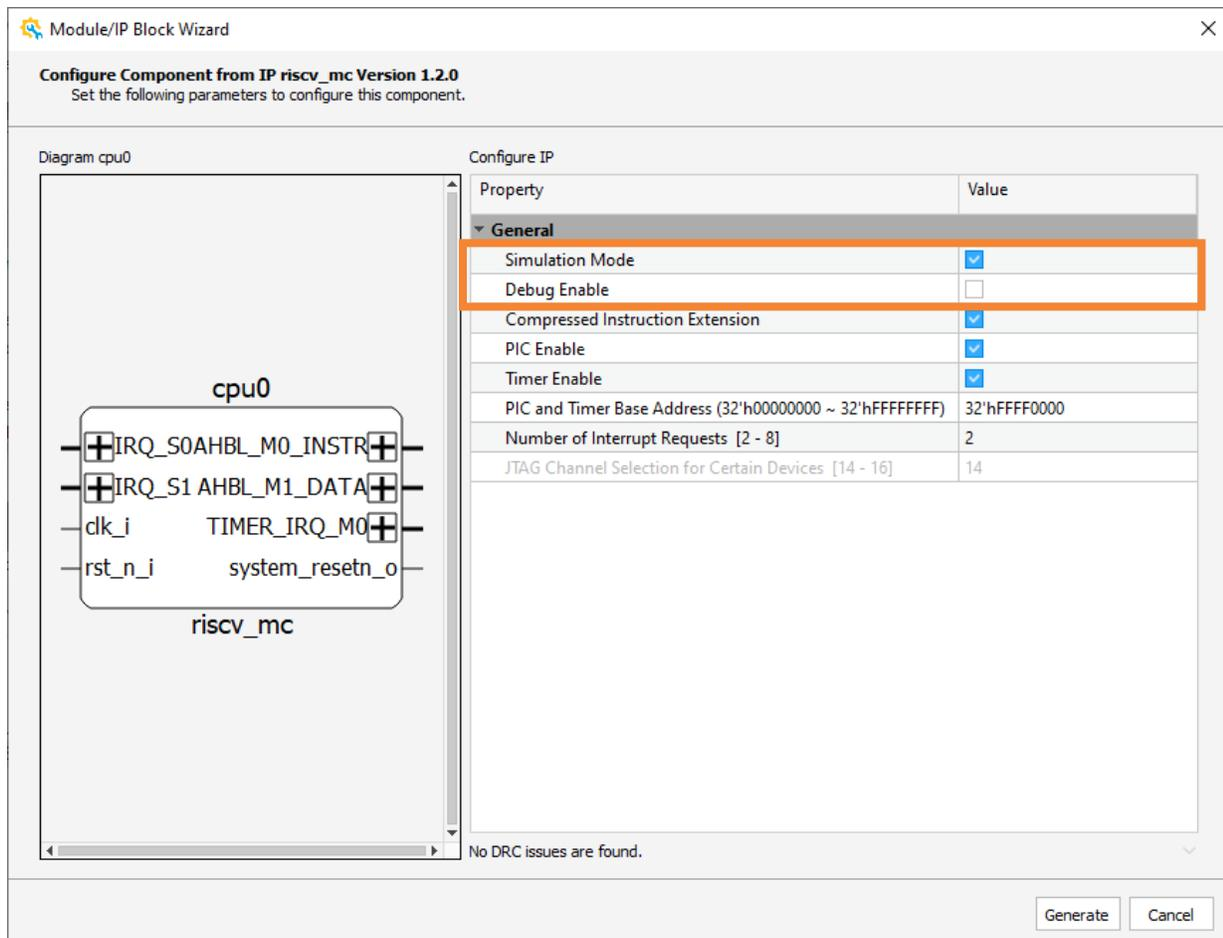

Figure 3.27. Configure Module RISC-V MC
- Enable the checkbox for **Simulation Mode**, and disable the checkbox for **Debug Enable** for *RISC-V MC* IP module in the **General** area (Figure 3.27).